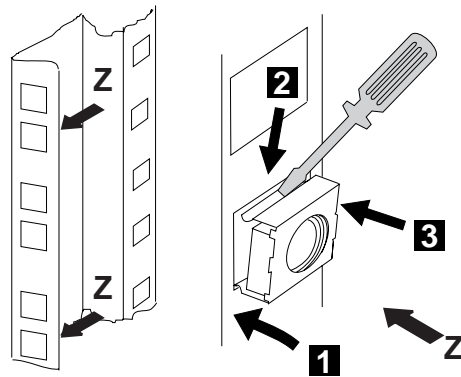

Figure 1-5. Captive Nuts Installation
6. ____ **Install** two captive nuts PN 58G5766 in the rear side of the controller expansion as shown in Figure 1-5, refer also to Figure D-7 on page D-8 to determine the location of the captive nuts from the brackets position.